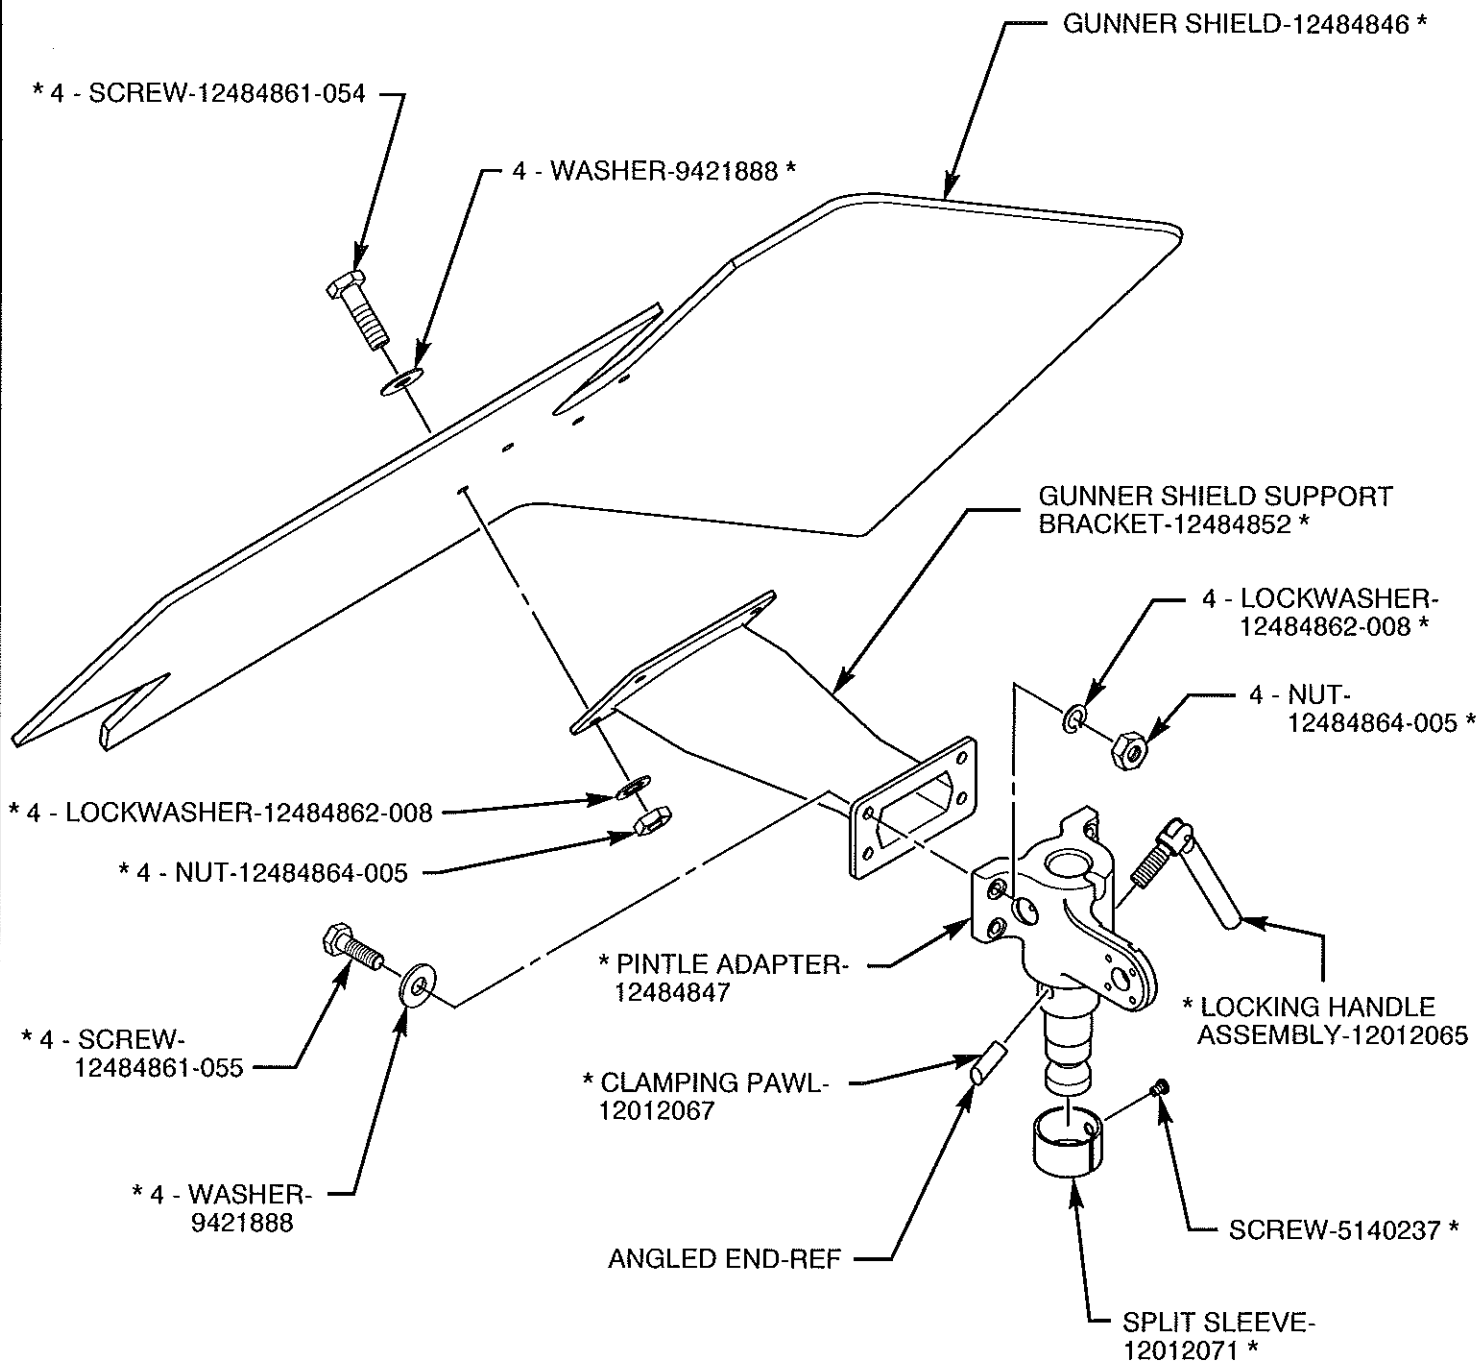

FIGURE 2
- A. INSTALL 12012067 CLAMPING PAWL INTO 12484847 PINTLE ADAPTER AND ENSURE ANGLED END OF CLAMPING PAWL MATCHES CONTOUR OF PINTLE ADAPTER AS SHOWN IN FIGURE 2.
- B. INSTALL 12012071 SPLIT SLEEVE ONTO PINTLE ADAPTER AND SECURE WITH 5140237 SCREW AS SHOWN IN FIGURE 2.
- C. INSTALL 12012065 LOCKING HANDLE ASSEMBLY INTO PINTLE ADAPTER AS SHOWN IN FIGURE 2. DO NOT TIGHTEN LOCKING HANDLE ASSEMBLY.
- D. INSTALL 12484846 GUNNER SHIELD ONTO 12484852 GUNNER SHIELD SUPPORT BRACKET AND SECURE WITH FOUR 12484861-054 SCREWS, 9421888 WASHERS, 12484862-008 LOCKWASHERS, AND 12484864-005 NUTS AS SHOWN IN FIGURE 2. TIGHTEN SCREWS TO 37 LB-FT (50.2 N·m).
- E. INSTALL 12484847 PINTLE ADAPTER ONTO 12484852 GUNNER SHIELD SUPPORT BRACKET AND SECURE WITH FOUR 12484861-055 SCREWS, 9421888 WASHERS, 12484862-008 LOCKWASHERS, AND 12484864-005 NUTS AS SHOWN IN FIGURE 2. TIGHTEN SCREWS TO 37 LB-FT (50.2 N·m).